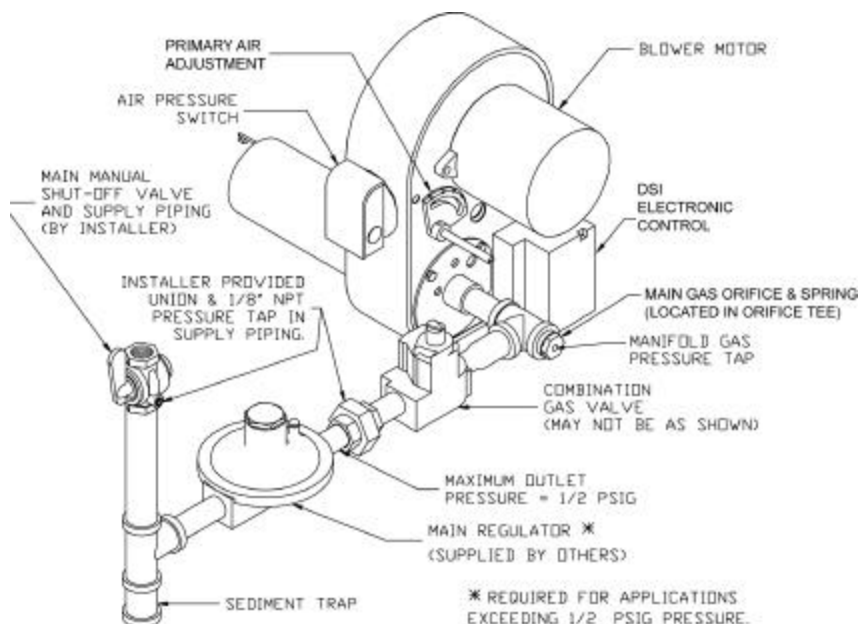

Figure 6: Piping Diagram
**⚠ CAUTION: The available gas pressure should be within the limits shown in Table 1 - SPECIFICATIONS section. Excessive pressure may damage electric valves, regulators and manual valves. If the supply pressure exceeds the 14.0"W.C. maximum, a suitable high pressure regulator must be installed between the Main Manual Shut-Off Valve and burner combination valve as shown in Figure 6.**
- ⚠ Provide a sediment trap, union and 1/8" pressure tap in piping close to burner as shown in Figure 6.
- ⚠ If the burner piping must be rearranged because of space limitation, be sure to carry out the general arrangement shown in Figure 6. Install the combination valve in any position except up-side down.